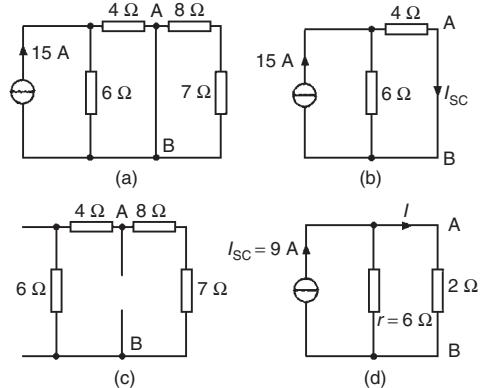

Figure 13.63
- (i) The 2 Ω resistance branch is short-circuited as shown in Fig. 13.63(a)
- (ii) Fig. 13.63(b) is equivalent to Fig. 13.63(a). Hence
- (iii) If the 15 A current source is replaced by an open-circuit then from Fig. 13.63(c) the resistance 'looking-in' at a break made between A and B is given by  $(6 + 4) \Omega$  in parallel with  $(8 + 7) \Omega$ , i.e.
- (iv) From the Norton equivalent network shown in Fig. 13.63(d) the current in the 2 Ω resistance is